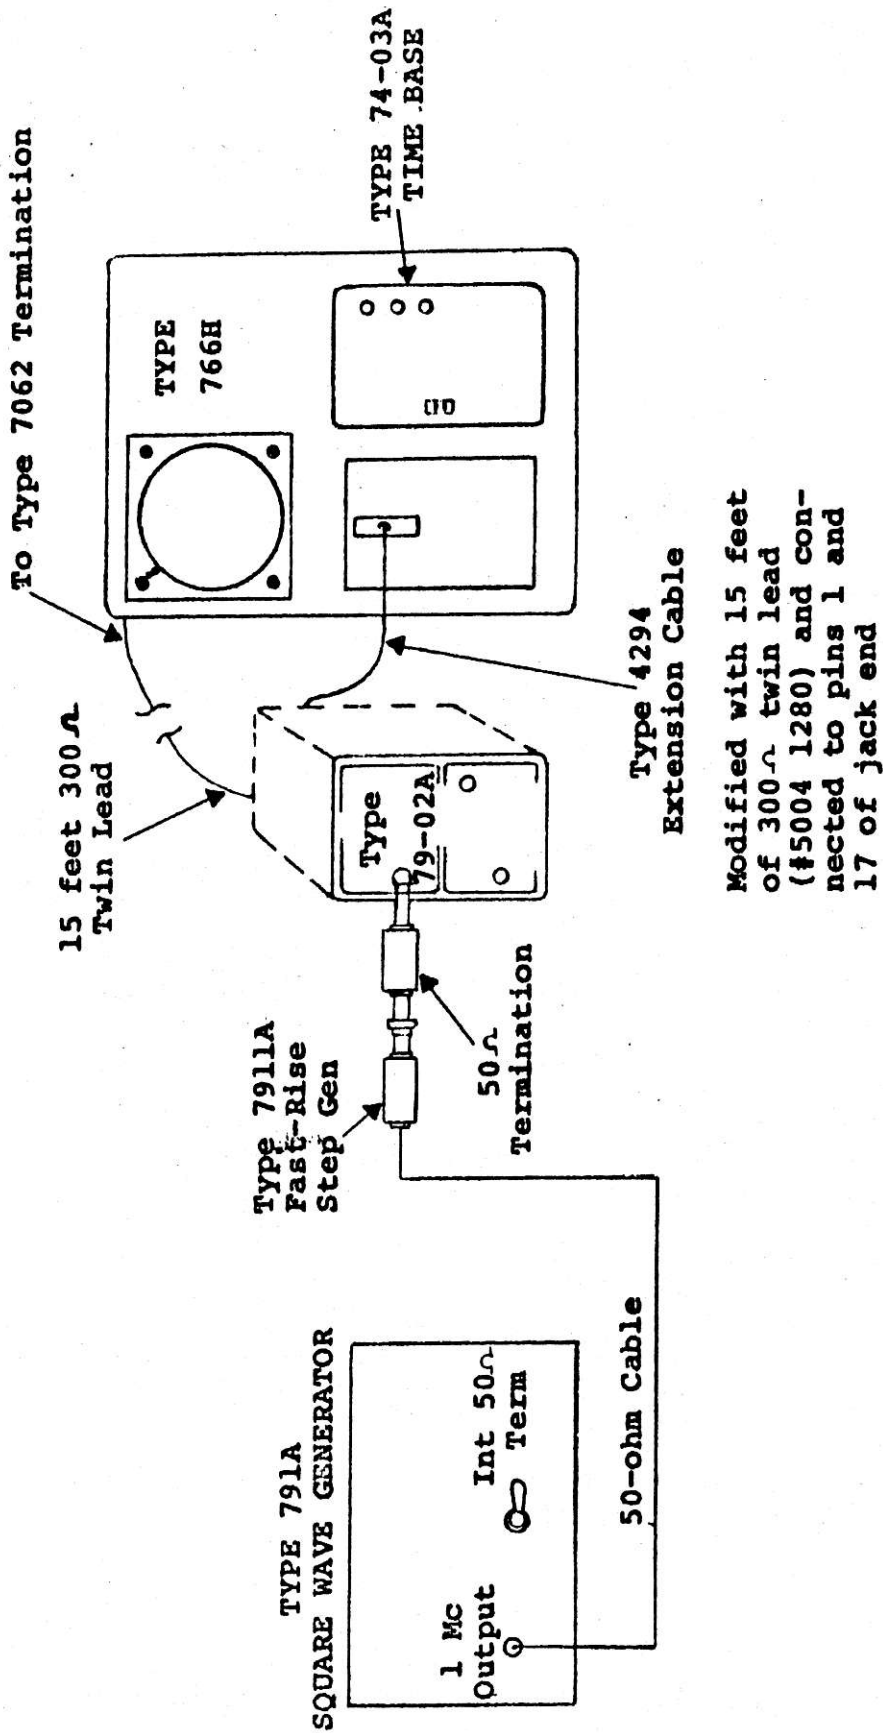

FIGURE 4. TEST SETUP FOR PEAKING ADJUSTMENT
B. PEAKING ADJUSTMENTS (C2053 and R2065) Figures 4 thru 6.
1. Hook up Test Equipment as indicated in Figure 4.